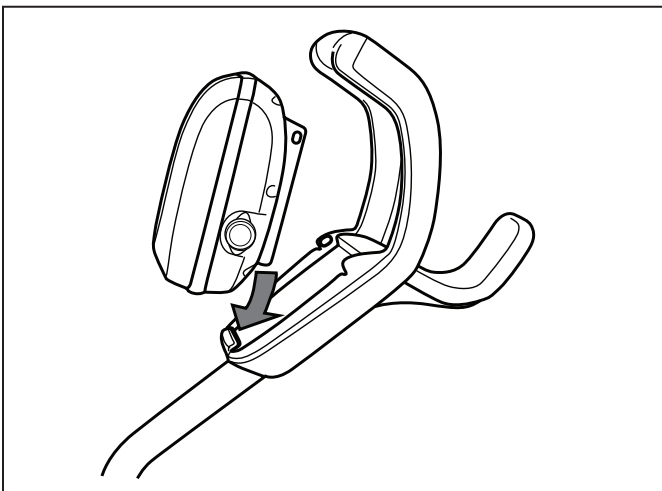

Figure 8. Align Control Unit on Caddy Hook
1. Align the bottom of the control unit with the notch at bottom of the control unit hook on the caddy (Figure 8).